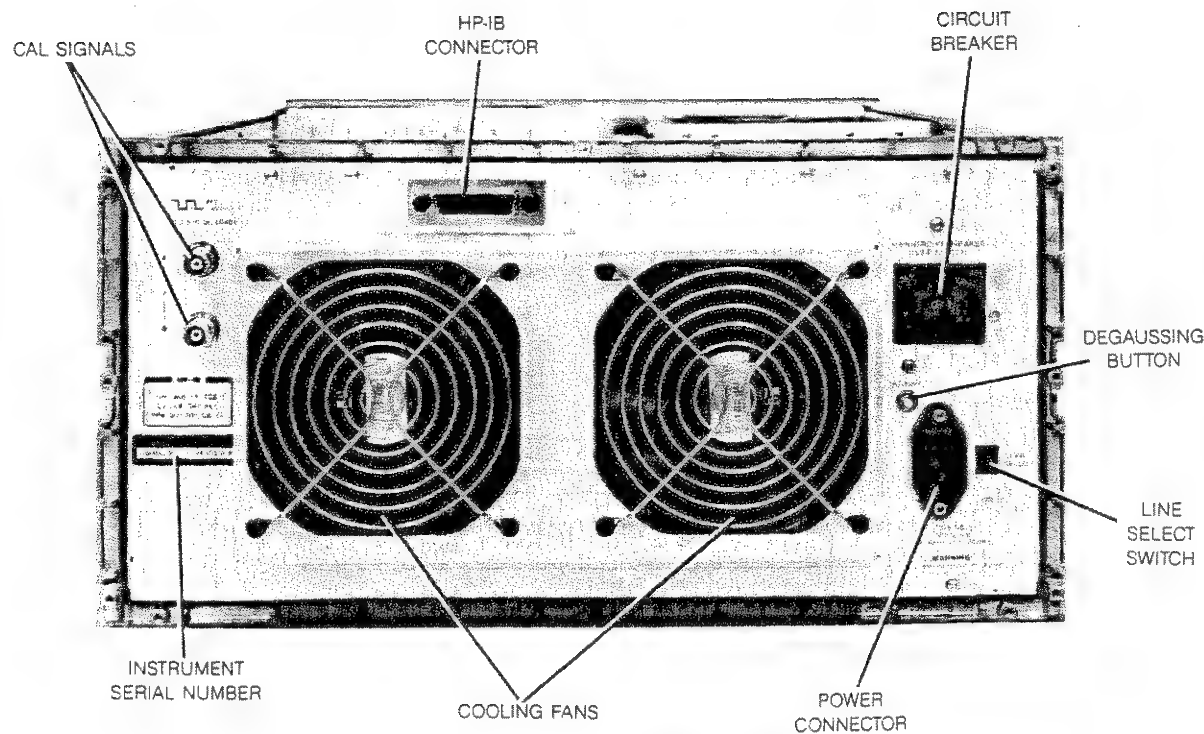

Figure 4-1. HP 54110D Rear Panel
Before connecting this instrument to the AC power source, insure that the line select switch on the rear panel of the instrument is set to the appropriate position (see figure 4-1).
2. The mains breaker is located on the upper right hand corner of the rear panel (see figure 4-1).